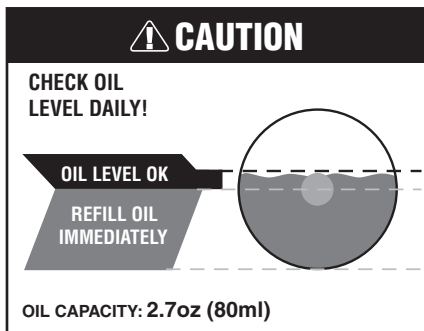

Fig. 3
4. See diagram for determining proper oil fill level using oil fill sight glass (see Fig. 3).